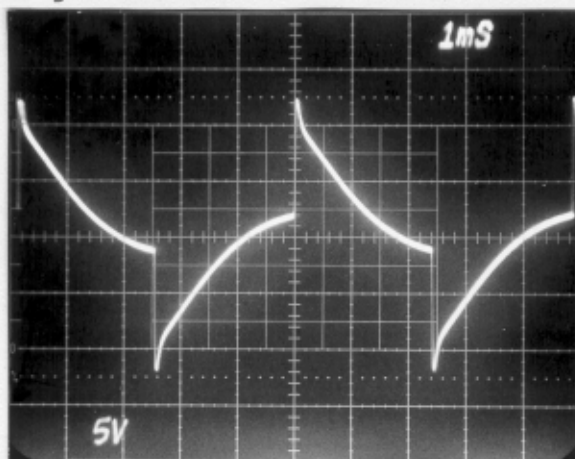
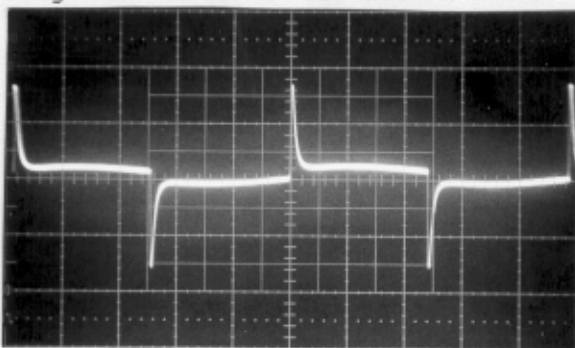

Fig. 6. Lo-Mid to 10.
Fig. 7. Lo-Mid to 0.
- C) Lo-mid to 10-Fig.6; lo-mid to 0-Fig.7.